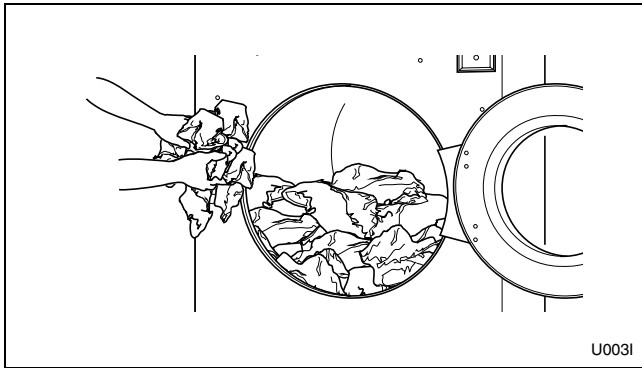

Figure 6
3. Load to capacity whenever possible. DO NOT OVERLOAD. Refer to *Figure 6*.